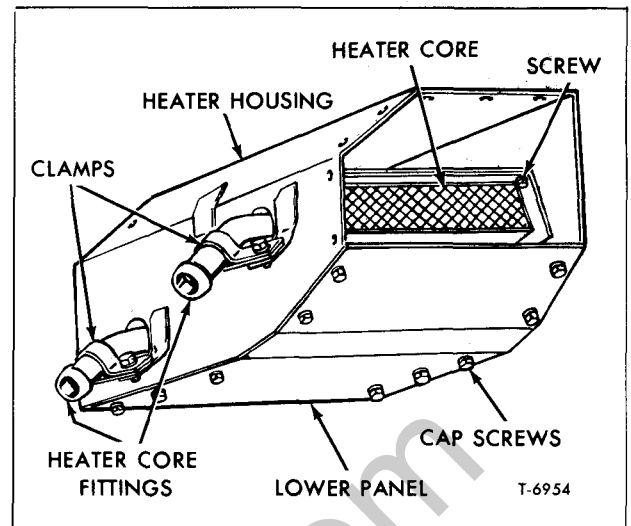

Figure 47—Main Heater Housing
8. With main heater housing removed from vehicle, referring to figure 47, perform the following steps to remove heater core: